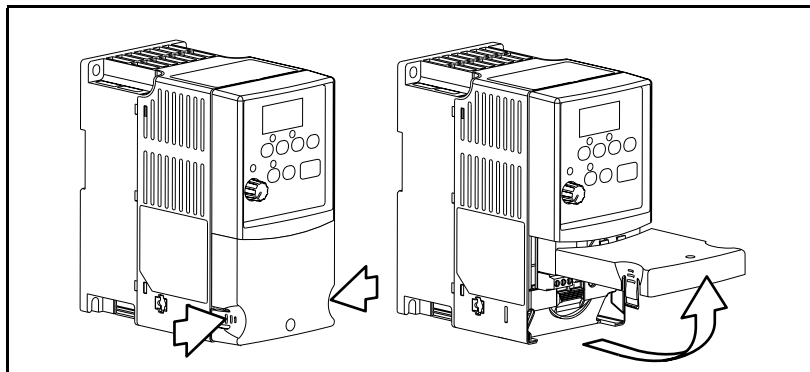

Figure 5.1 – Opening the Cover
- b. Pull the cover out and up to release (refer to figure 5.1).